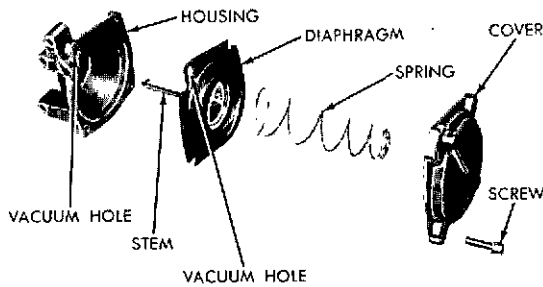

FIG. 39 Disassembly or Assembly of Secondary Vacuum Diaphragm
MODEL 4150 Disassembly of the secondary metering body is similar to the disassembly of the primary metering body (Figure 39).
19. Disassemble the secondary diaphragm. **CAUTION:** Loosen four screws carefully and free up cover to prevent catching edges of diaphragm in cover screws (Figure 39).
#### ASSEMBLING SECONDARY DIAPHRAGM (Figure 39)